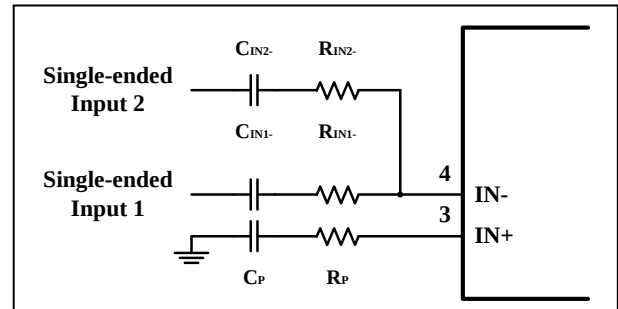

Figure 16 Application Circuit with Summing Two Single-Ended Inputs
The corner frequencies (f_{C1} and f_{C2}) for each input source can be set independently by Equations (9) and (10). Resistor, R_P , and capacitor, C_P , are needed on the IN+ terminal (Figure 16). The gain for each input source can be set independently by Equations (4) and (5).